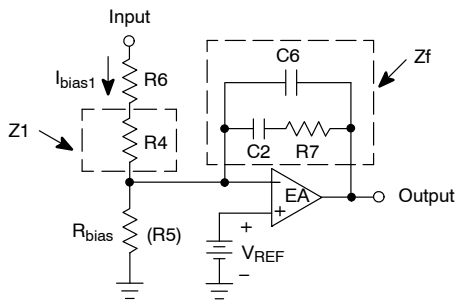

Figure 5. Type II Error Amplifier
The frequency compensation can be achieved using a type II error amplifier (EA) as the one shown in Figure 5.